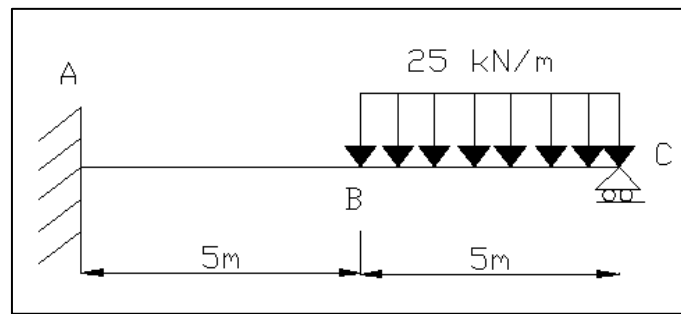

Fig. 6
6. Determine the deflection at point B of the propped beam as shown in Fig. 6 EI is constant throughout. Use Castigliano's second theorem to find support reactions.